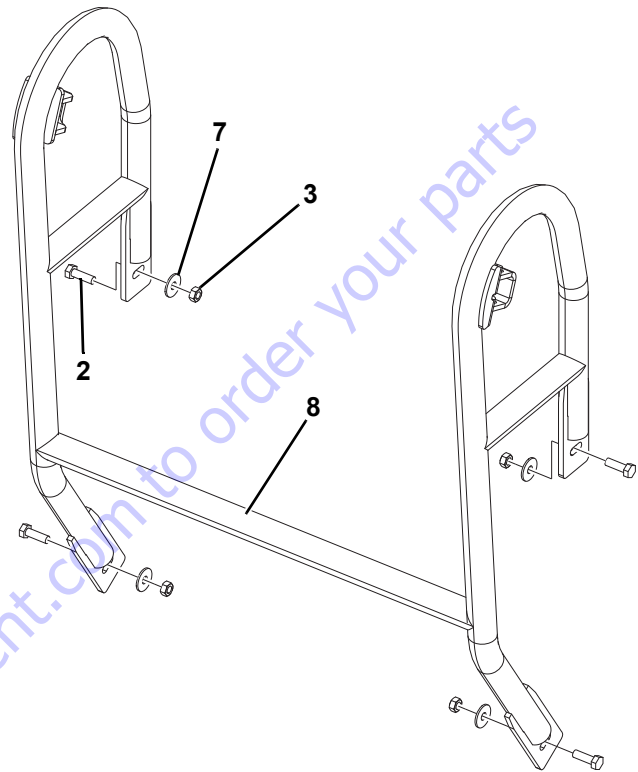

Figure 4-41.
1. Install the SkyGuard Support Bracket (8) onto the welded mounts on platform rails. Secure the support bracket using four Bolts (2), relevant Washers (7) and Nuts (3). See Figure 4-41.